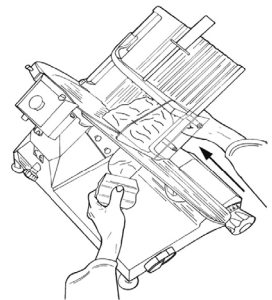

Fig. 2. Cutting meat
- smoothly push the carriage (food tray + meat pusher + stem) towards the blade without exerting pressure on foodstuffs with the meat pusher since they have their own force of gravity which exerts pressure on the thickness gauge. The blade will easily cut foodstuffs and slicers will be guided by the deflector onto the collecting plate (see FIG. 2);